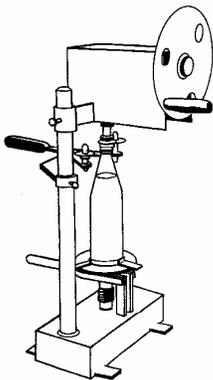
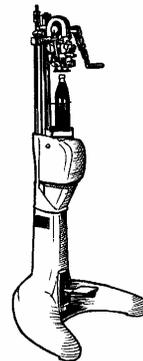

Figure 11: Hand operated ROPP machine
Figure 12: Motorised ROPP machine
Roll-on-pilfer-proof (ROPP) caps are fitted by placing a blank cap on the bottle and then pressing the metal into the screw thread of the glass. Finally, a ring of perforated metal is formed at the base of the cap that shows evidence of tampering or pilfering. Hand operated ROPP machines can be constructed locally (Figure 11) and small motorised version are available commercially (Figure 12). A simpler cap which does not incorporate the pilfer-proof feature is known as a 'Roll-on (RO) cap and this can be fitted by similar types of equipment.